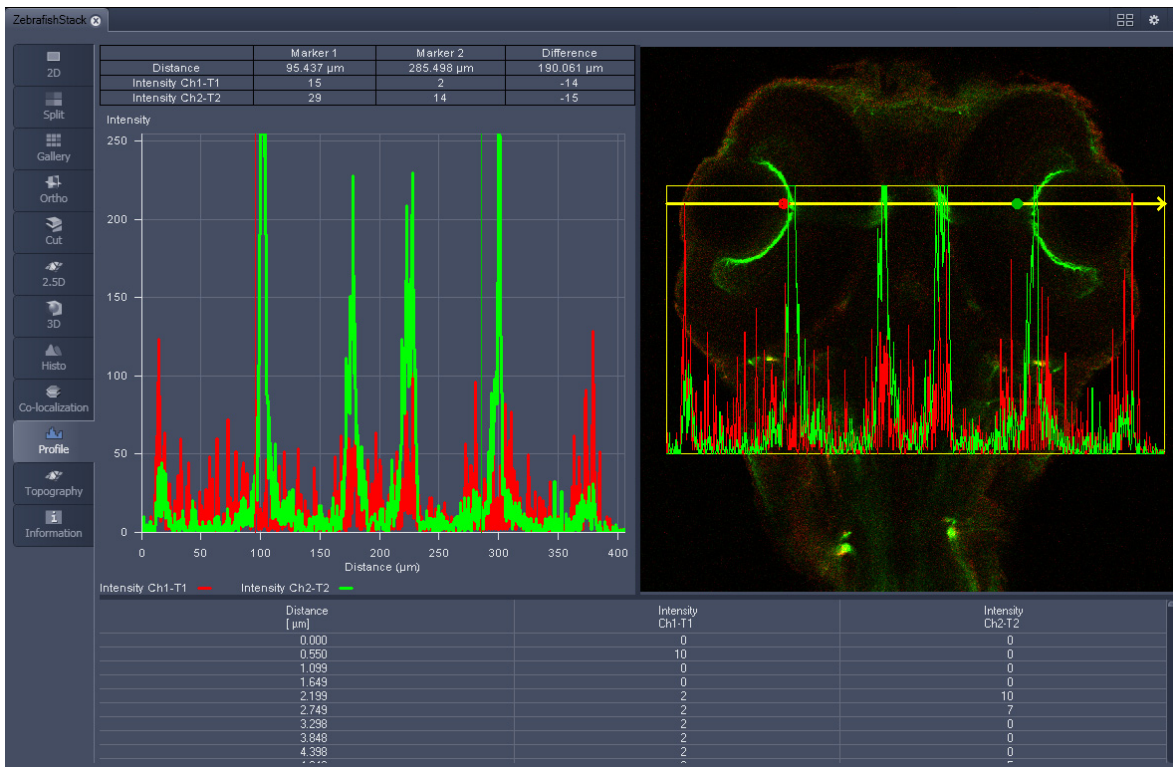

Fig. 6-64 Image Display - Profile View, Profile displayed in Image
- Tick the **Profile in Image Display** block to see an intensity graph superimposed on the image (see Fig. 6-64).